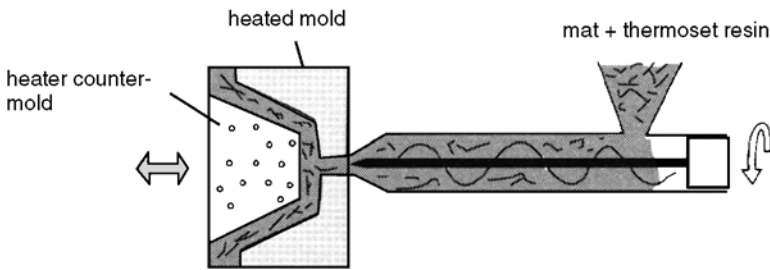

Figure 2.7 Injection of Premixed
- **Thermoset resins:** Can be used to make components of auto body. The schematic of the process is shown in Figure 2.7.